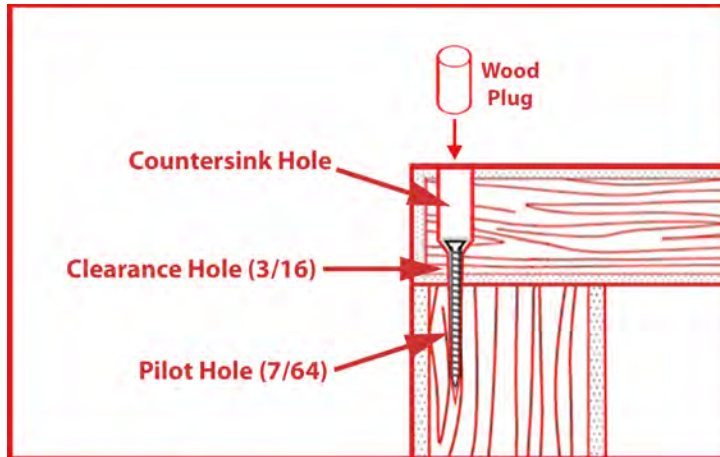

Fig 11
- Once the drill locations have been identified and marked, drill through them one at a time using the 7/64 straight bit to create pilot holes. These holes should be slightly deeper than the overall screw length. Otherwise, the screw might bottom out and later break off (Fig 11).